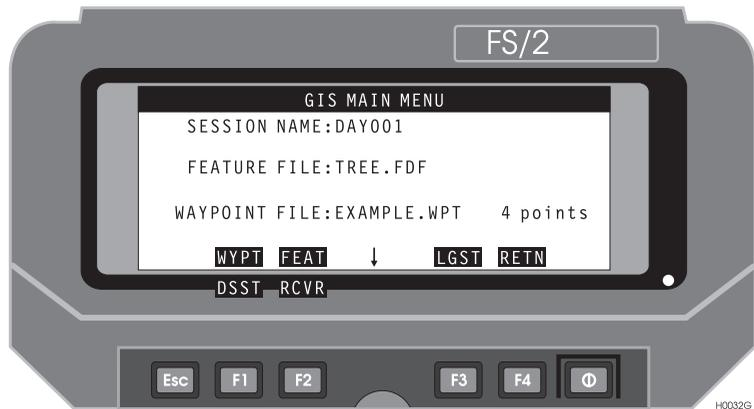

Figure 3.34: GIS Main Menu.
- Press F3 (GIS), calling the GIS Main Menu, Figure 3.34.